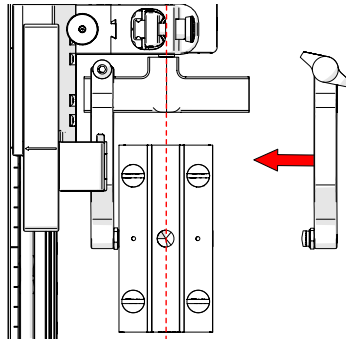

Fig. 38 - Remove outer arm
6. Align the middle of the wedge with the centre of the yoke (Fig. 38).